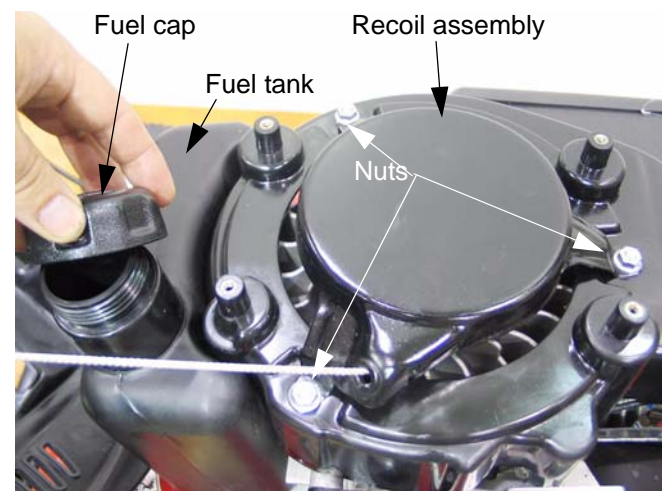

Figure 6.5
- 6.5. Remove the three nuts that secure the recoil assembly and fan shroud to the engine using a 10mm wrench. See Figure 6.5.